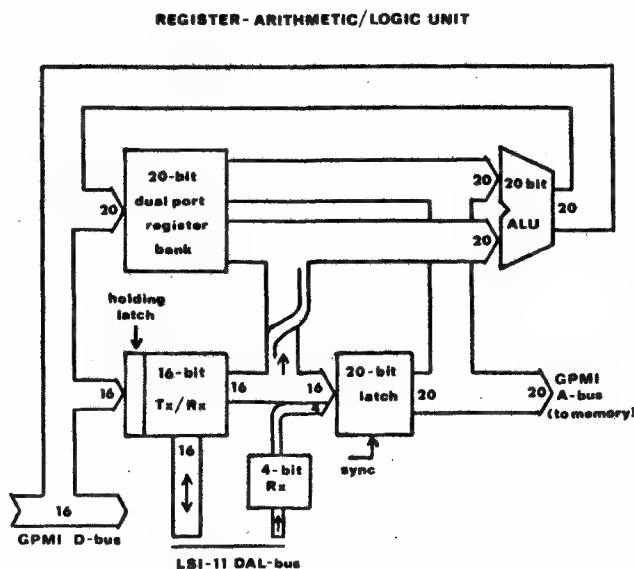

Figure 1-3
- the Register - Arithmetic/Logic Unit (figure 1-3);